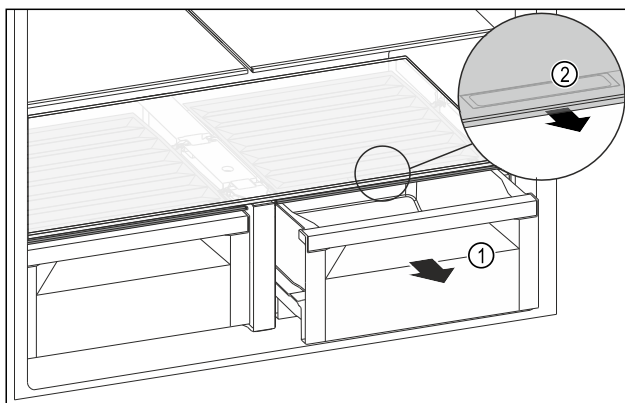

Fig. 104
- Pull out the drawer *Fig. 104 (1)*.
- Grasp the recessed grip *Fig. 104 (2)* on the compartment lid and pull the compartment lid forwards at the same time.